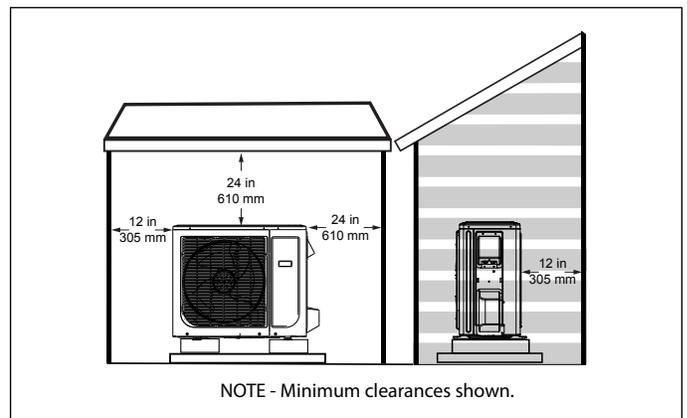

Figure 20. Dog House-Style Shelter
opy" or "Figure 20. Dog House-Style Shelter" on page 13
- Outdoor unit can be installed in a dog house style shelter as illustrated in “Figure 20. Dog House-Style Shelter”